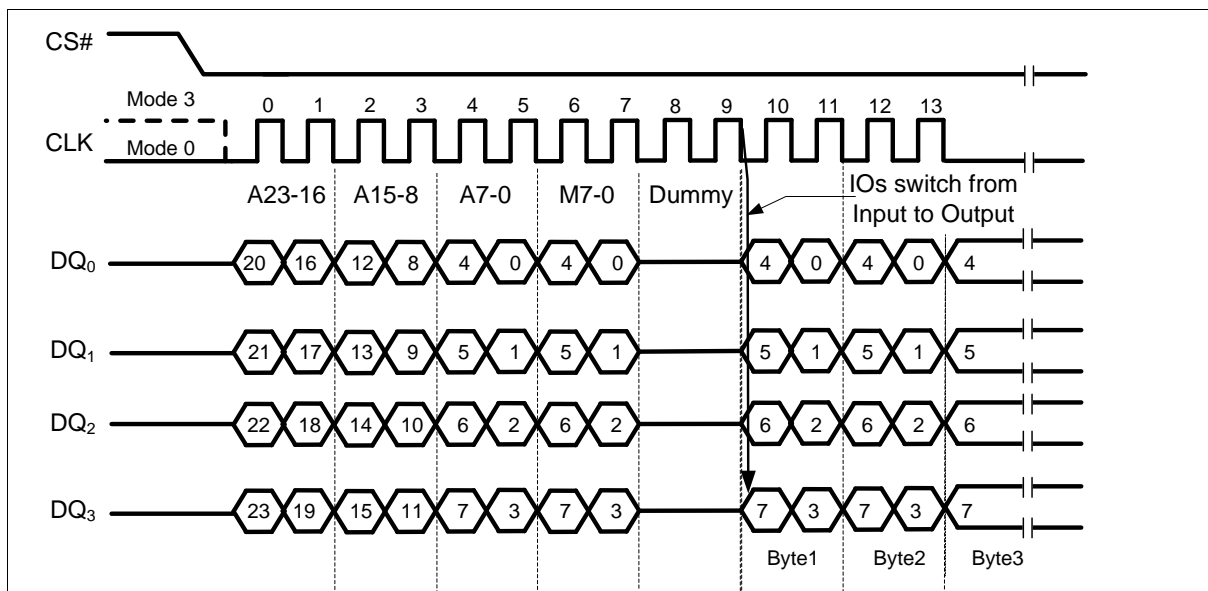

Figure 27 Word Read Quad I/O Instruction (Previous instruction set M5-4 = 10, SPI Mode only)
If the “Continuous Read Mode” bits M5-4 = (1,0), then the next Fast Read Quad I/O instruction (after CS# is raised and then lowered) does not require the E7h instruction code, as shown in Figure 27. This reduces the instruction sequence by eight clocks and allows the Read address to be immediately entered after CS# is asserted low. If the “Continuous Read Mode” bits M5-4 do not equal to (10), the next instruction (after CS# is raised and then lowered) requires the first byte instruction code, thus returning to normal operation. It is recommended to input FFh on DQ₀ for the next instruction (8 clocks), to ensure M4 = 1 and return the device to normal operation.